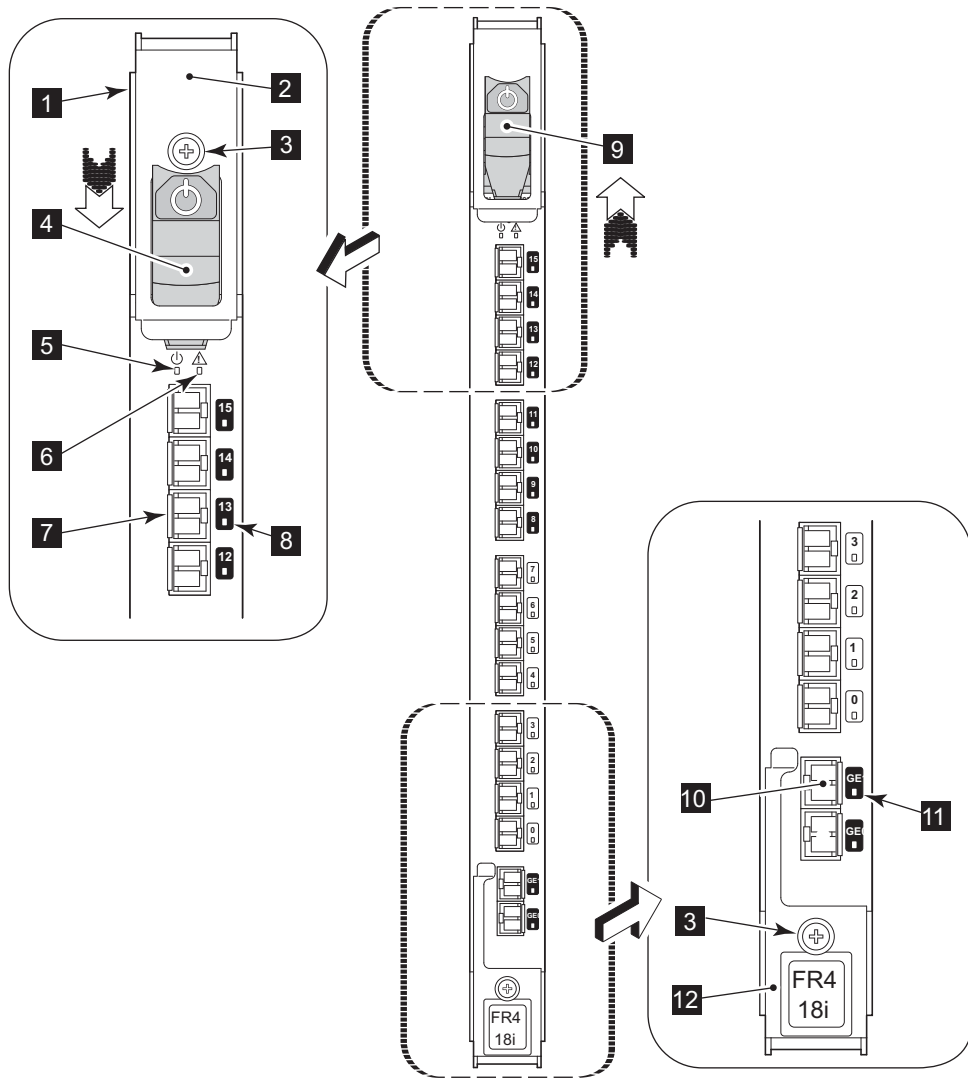

Figure 33. FR4-18i router blade and components
1. Using Figure 33 on page 80 as a guide, check the power LED, status LEDs, and port status LEDs to identify any possible problems with the router blade.
To install an FR4-18i router blade, complete these steps (refer to Figure 33 on page 80 for blade component locations):
8. Power on the blade using the power switch at the top of the blade (**9** in Figure 33 on page 80). Keep the blade in an offline (disabled) state until the ports are configured.